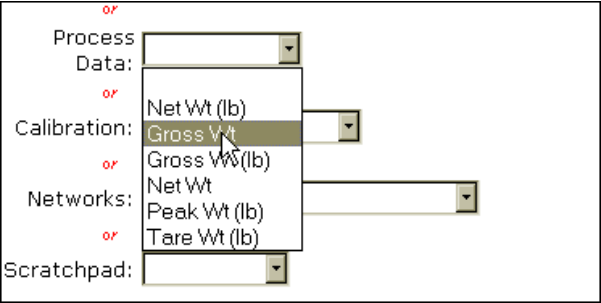

FIG. 279: MAPPING PAGE 2 SELECTING GROSS WEIGHT
- Step 26. Click on the Process Data pull down list. (See Fig. 279)